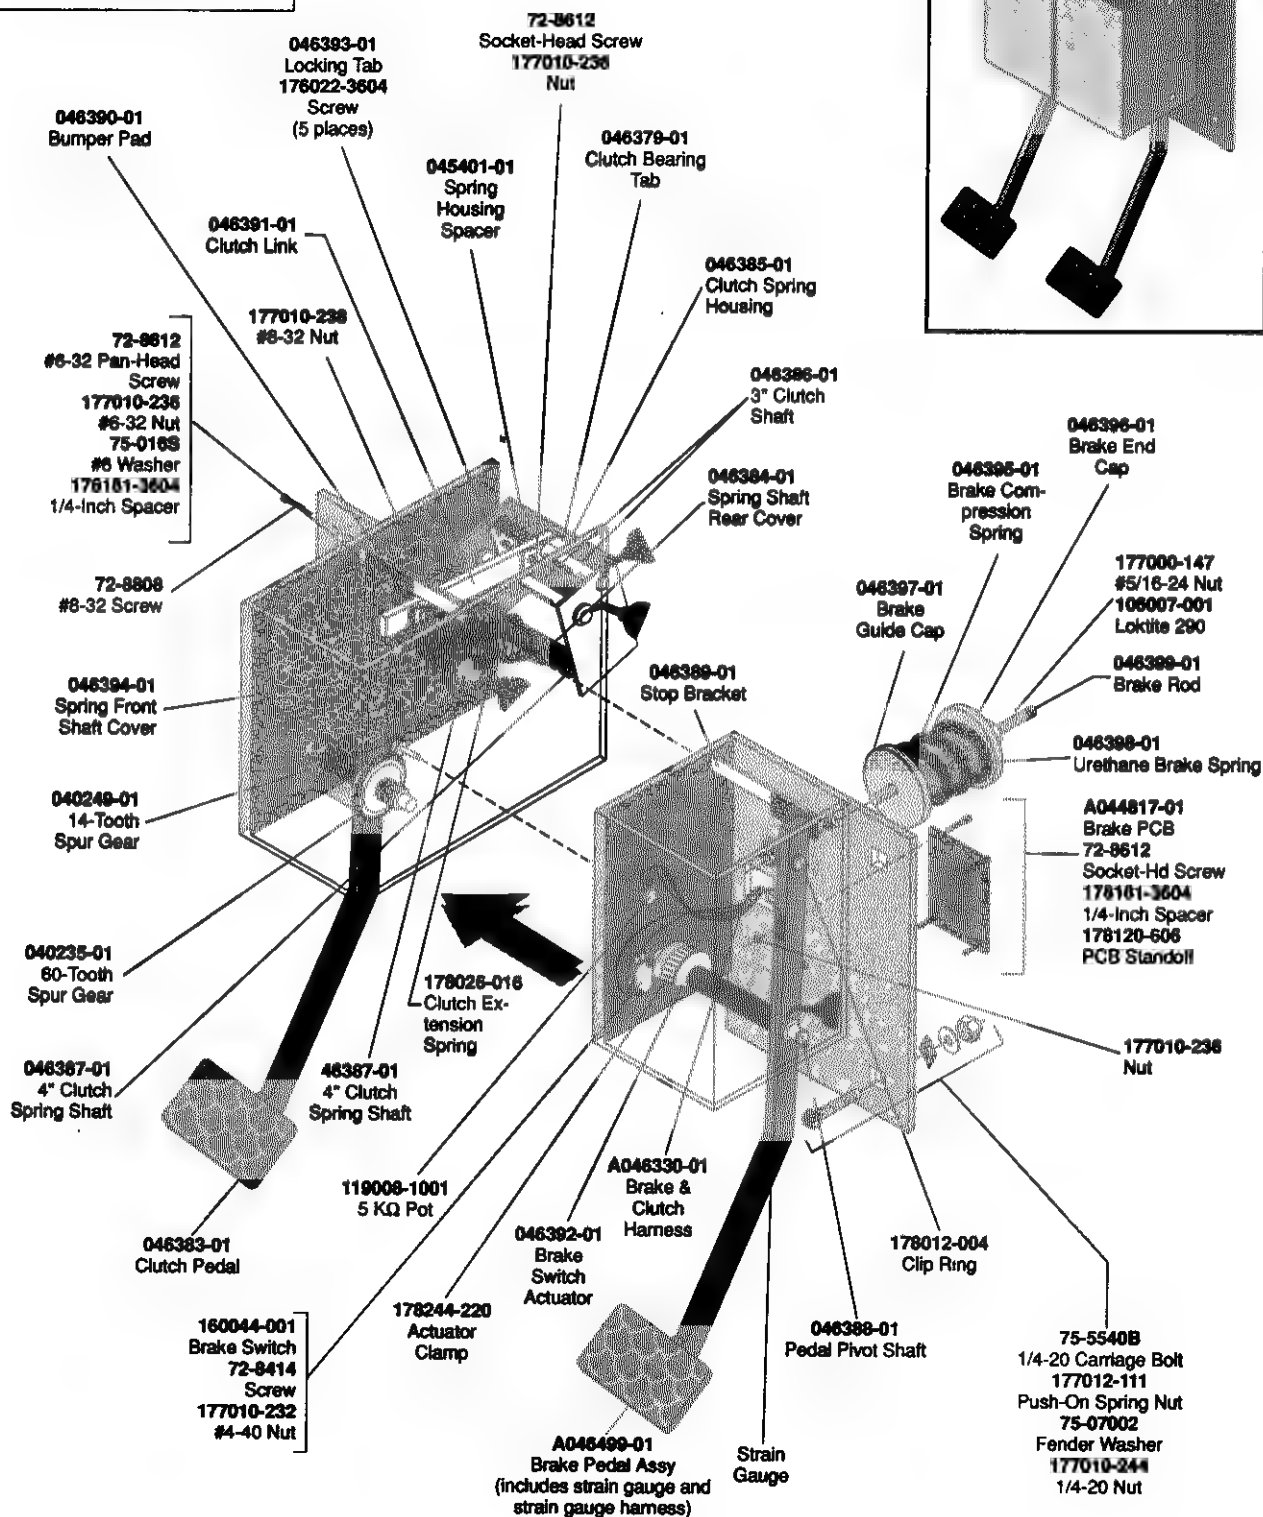

Figure 3-8 Maintaining the Clutch and Brake Assembly
6. Put light oil on the eight bearing points shown in Figure 3-8.
5. See Figure 3-8 for an illustration of the pedals. The clutch potentiometer is mounted on the brake side of the pedal assembly. Loosen the locknut on the potentiometer with a 1/2-inch flat wrench.
Replace the clutch springs if the clutch does not return to position and the springs are weak or broken. See Figure 3-8 for an illustration of the pedals.
5. On the pedal assembly, disconnect the strain gauge wires from the Brake PCB. See Figure 3-8 for an illustration of the pedals.